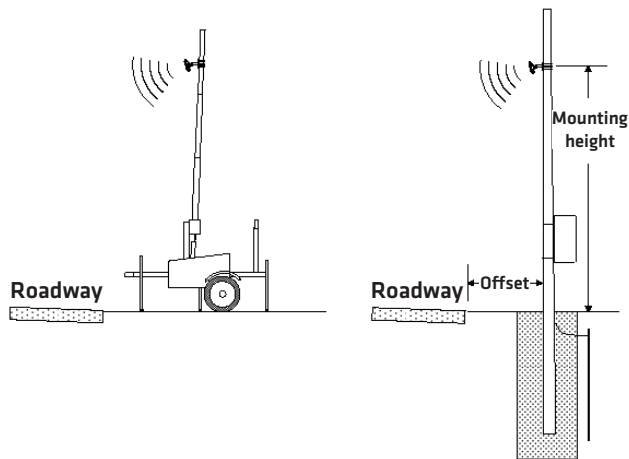

Figure I.1 - Portable (left) and Permanent (right) Sensor Stations
- **Freeway Locations** – The SmartSensor HD is often used at permanent ATR (automatic traffic recorder) stations. The number of stations along a single roadway and the distance between stations should be selected to achieve adequate levels of statistical confidence. Permanent ATR stations, which are selected to cover interstate, principal arterial, and other national and state highways, are used to establish seasonal adjustment factors for count data from temporary collection sites (see Figure I.1).